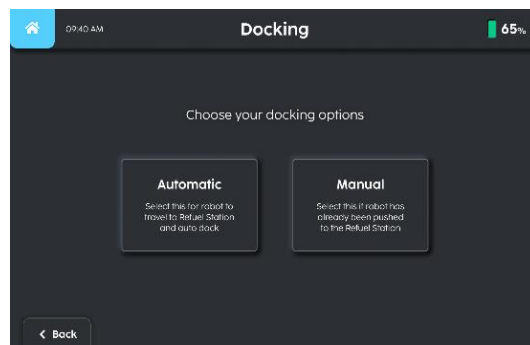

FIGURE 12-7
3. Select the means of docking robot via Automatic or Manual Mode (Fig. 12-7).
4. Select the means of docking robot as 'Manual Mode' (Fig. 12-7).